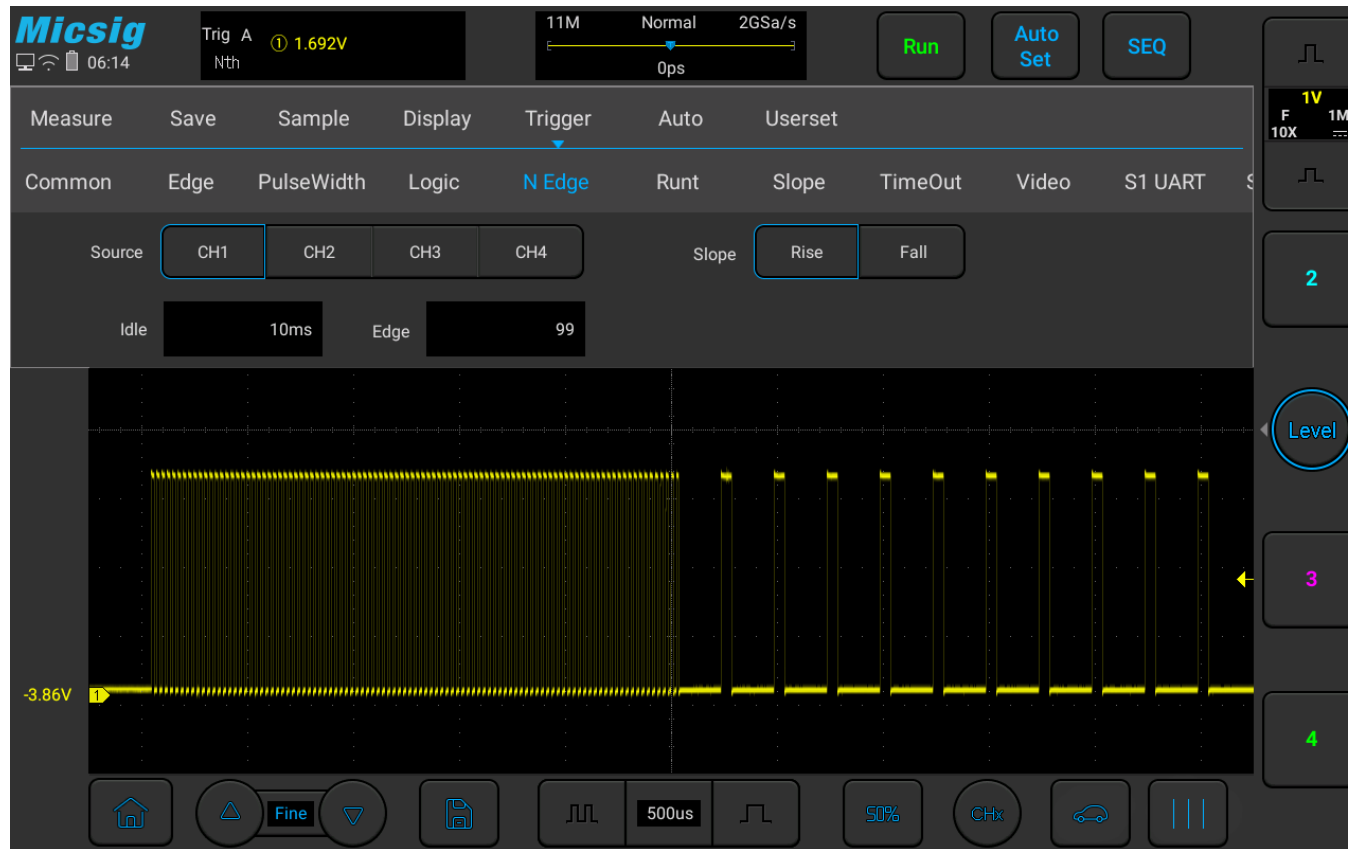

Figure 6-23 Nth Edge Trigger Menu
- 1) Tap “Trigger” on the main menu to open the trigger menu, select Nth edge trigger in the trigger type, and set the Nth edge trigger as follows, as shown in Figure 6-23: